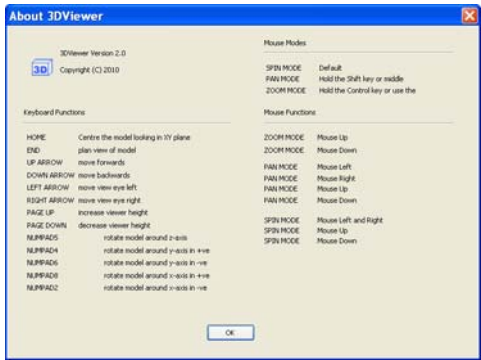

Figure 14-46. About 3D Viewer
- Click **Help ► About** on the *3DViewer* dialog box to use the various keyboard functions listed in Figure 14-46 to move around the 3DViewer and to select a position to view the data.